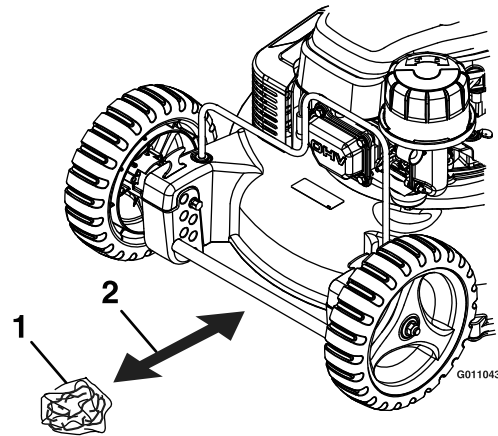

Figure 15
4. Take a half sheet of newspaper and crumple it into ball small enough to go under the deck (about 3 inches or 7.6 cm in diameter) as shown in Figure 15.